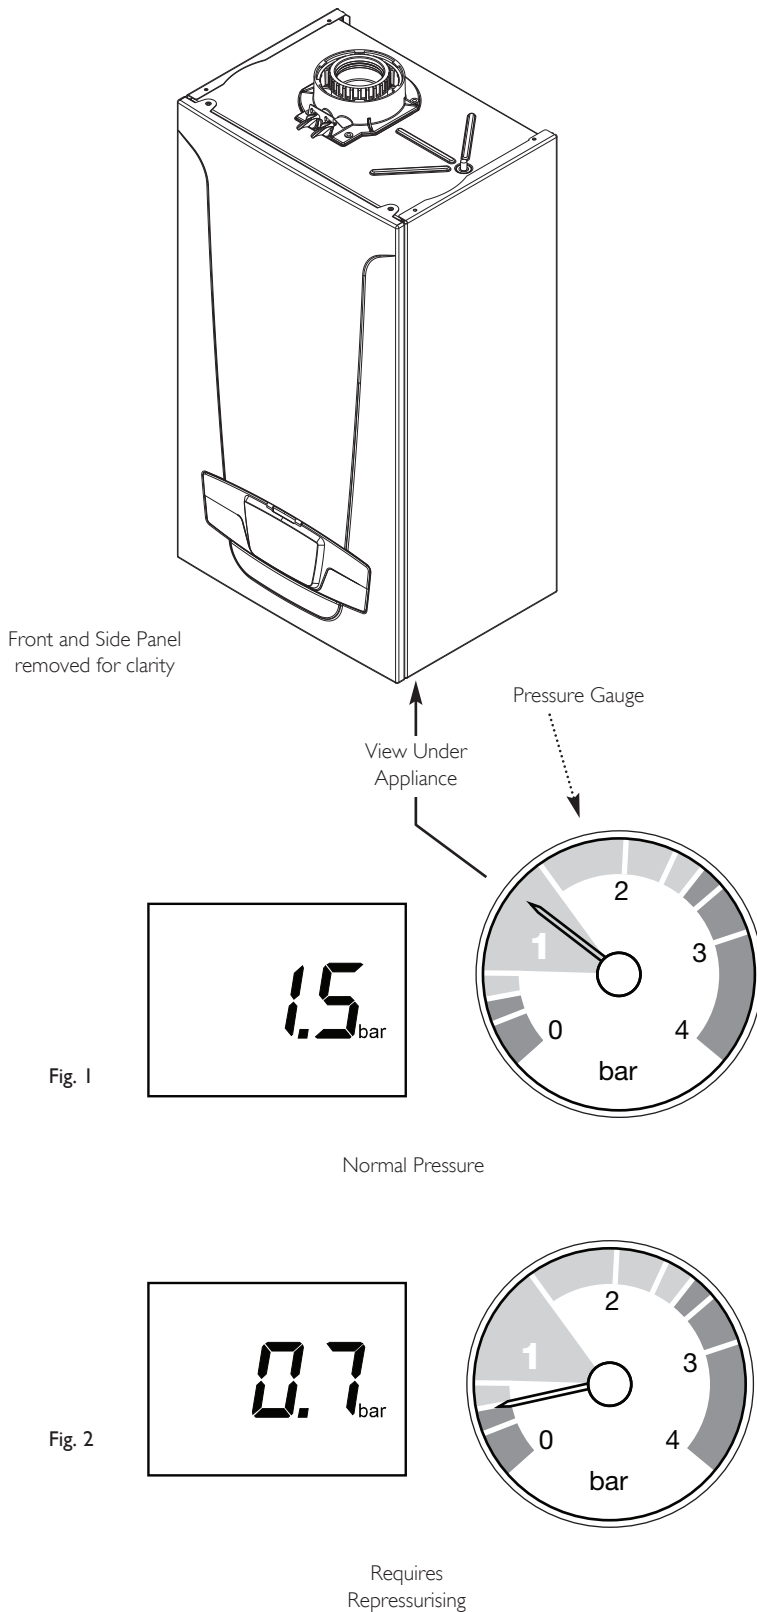

Fig. 1
3. With the system cold and the boiler not operating the pressure should be at least 0.5 bar. During operation the pressure should not exceed 2.5 bar, and will normally be between 1.0 and 1.5 (Fig. 1).